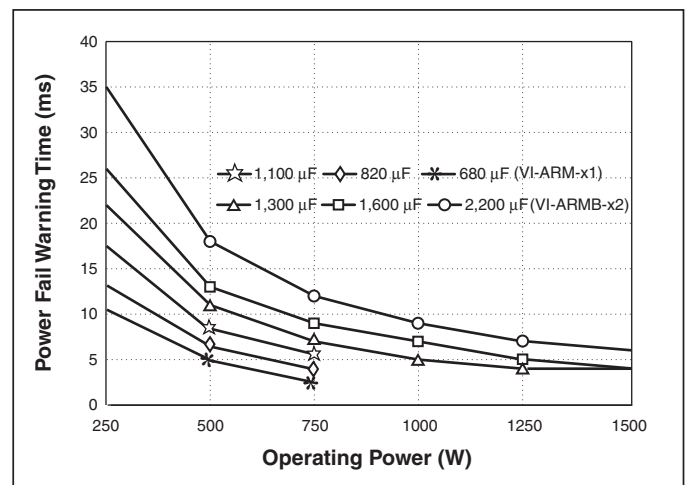

Figure 15 — Power fail warning time vs. operating power and total bus capacitance, series combination of  $C1$ ,  $C2$  (Fig. 10)
Calculated values of bus capacitance for various hold-up time, ride-through time, and ripple voltage requirements are given as a function of operating power level in Figures 15, 16, and 17, respectively.
**Warning.** Fig. 15 is used to determine hold-up capacitance for a given power fail warning time and power level, and shows that the total bus capacitance must be at least 820 µF. Since two capacitors are used in series, each capacitor must be at least 1,640 µF.